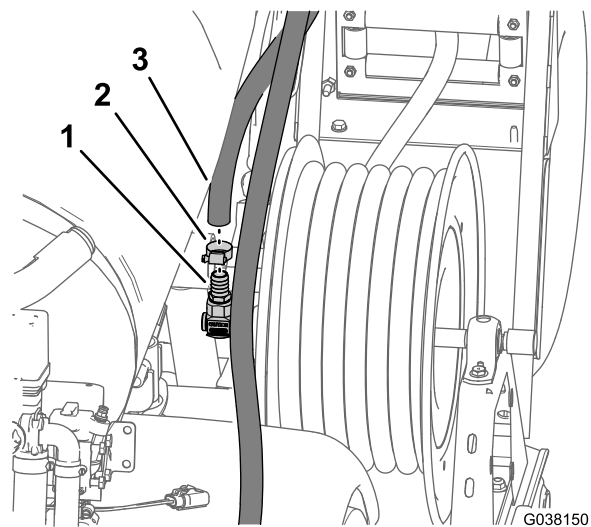

Figure 98
6. Assemble the supply hose onto the barbed fitting at the inlet of the hose reel (Figure 98), and secure the hose with a hose clamp 13 to 32 mm (1/2 to 1-1/4 inches).